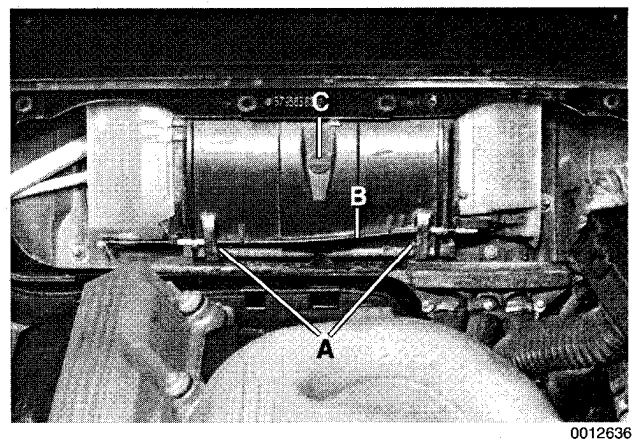

Fig. 5. Blower motor housing clips (A); control cable (B); and center retainer (C).
6. Unclip blower motor housing cover, disconnect control cable, and turn center retainer $\frac{1}{4}$ turn to remove cover. See Fig. 5.